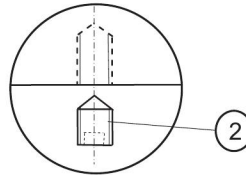

Abb.5
3. Loosen threaded nut with tool item no. 980 5422 000. (Fig. 5) max. 1 revolution anticlockwise./
4. Set the desired swing torque by tightening the threaded nut (fig.5)